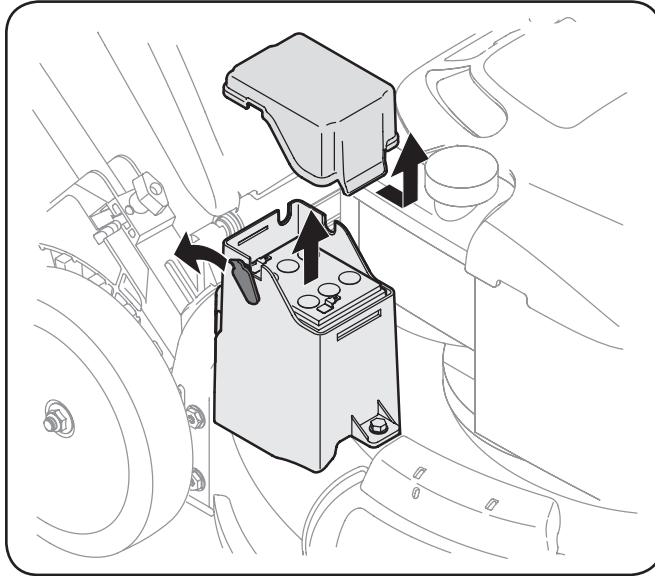

Figure 7-2
2. Remove positive and negative leads from battery, and pull up on battery to remove. See Figure 7-2.